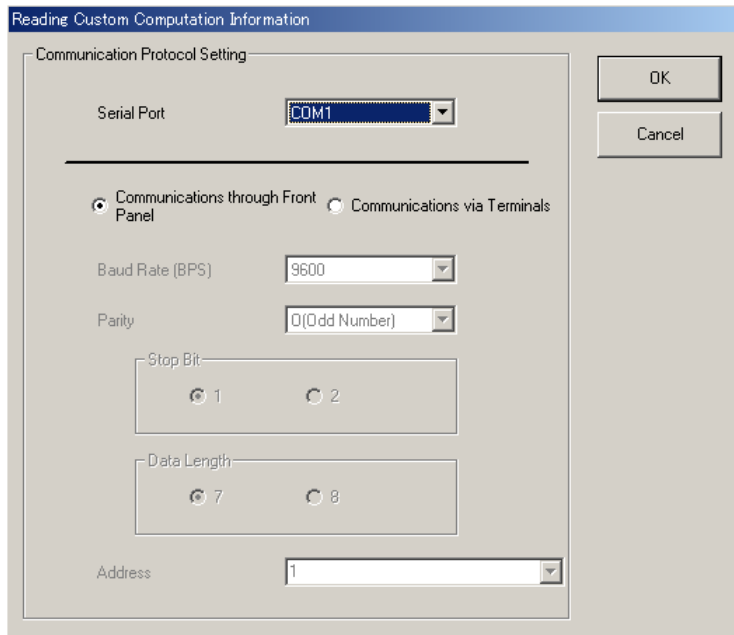

Figure 4.1.9 [Reading Custom Computation Information] Dialog Box
- (4) If you are configuring a custom computation by uploading data from the Green series controller, choose <Upload from Controller>. Click the <Upload from Controller> option button, and then the <OK> button. The [Reading Custom Computation Information] dialog box (Figure 4.1.9) appears.
If you choose <Upload from Controller> in the [New/Modification] dialog box, the [Reading Custom Computation Information] dialog box (Figure 4.1.9) appears.